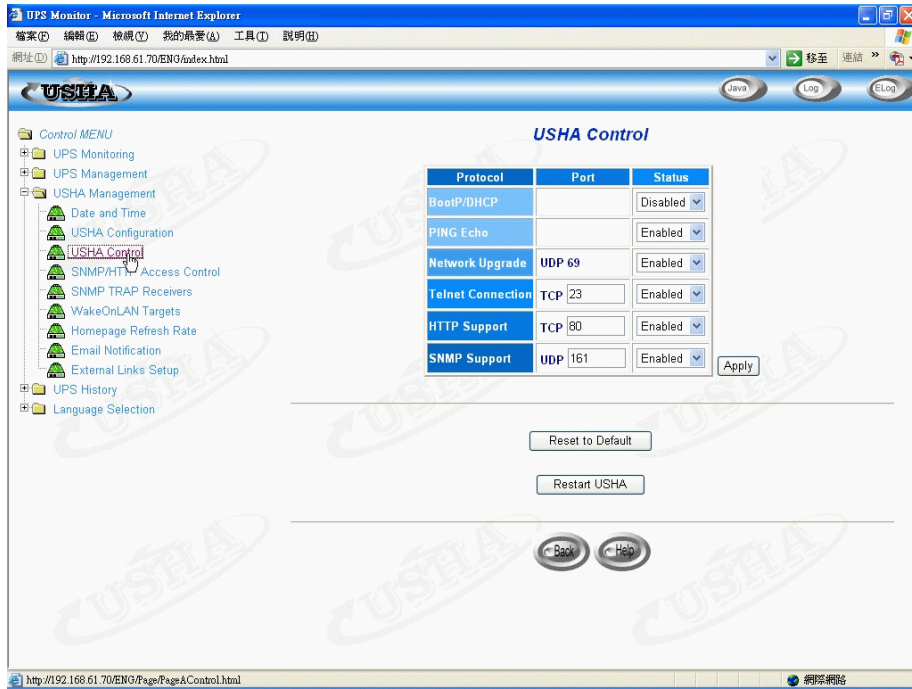

Figure 2-23 USHA Control page screen.
10. Select *USHA Control* to enable or disable the network protocols (Figure 2-23).